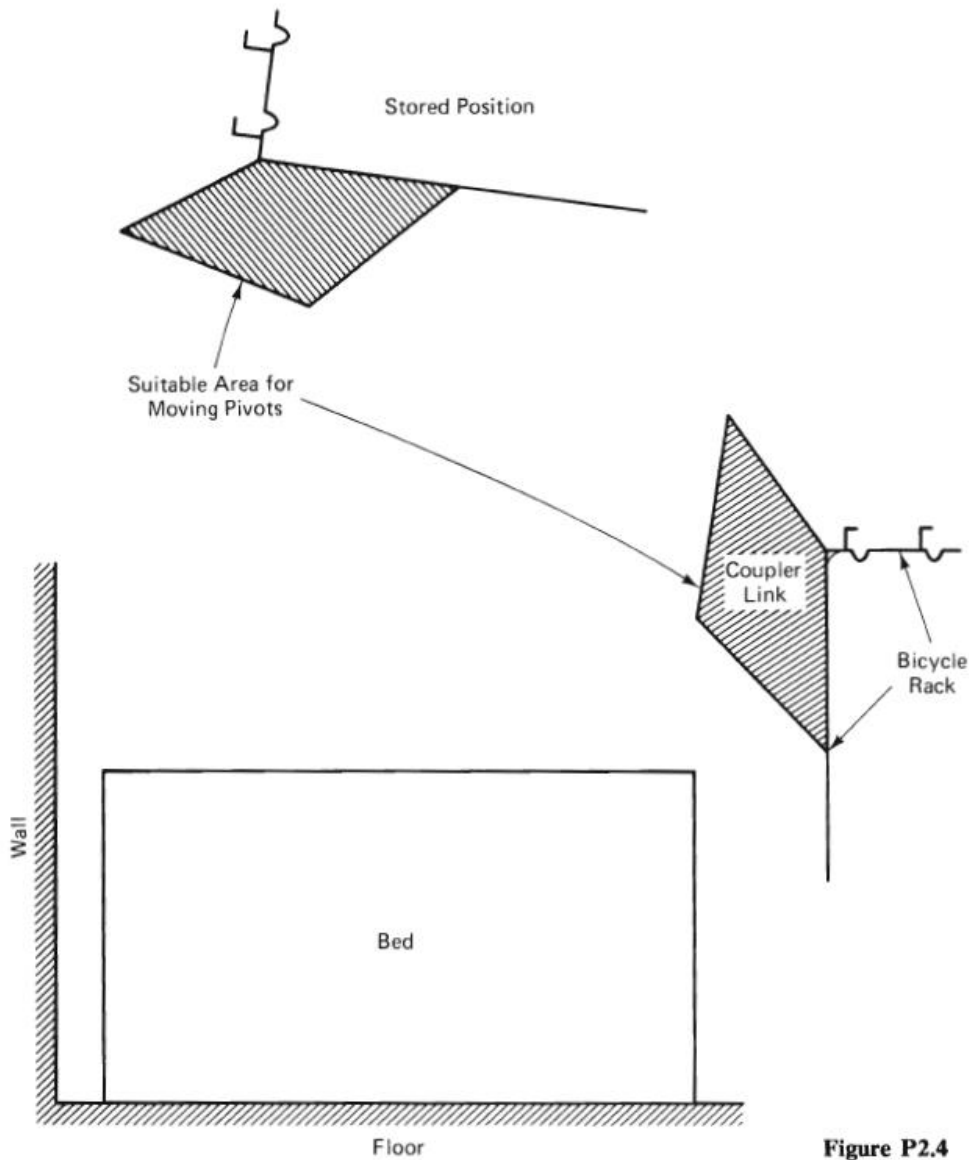

Figure P2.4
- 2.13. A student wishes to design a four-bar linkage that will store a bicycle above his bed. Two positions of the storage rack are shown in Fig. P2.4. Find acceptable ground and moving pivots for this design objective.